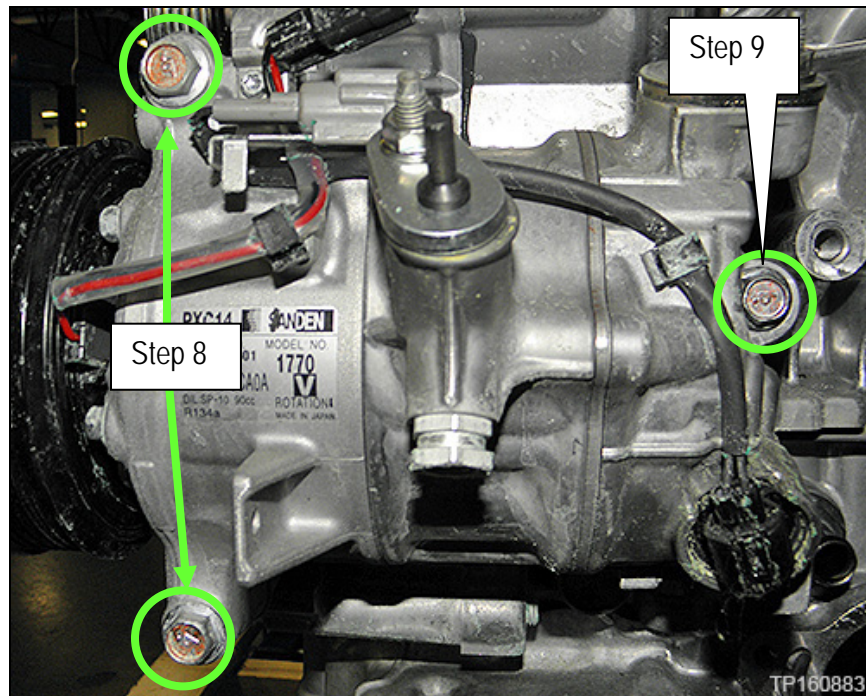

Figure 10
8. Loosen the front two (2) A/C compressor mounting bolts shown in Figure 10.
9. Loosen the single rear A/C compressor mounting bolt shown in Figure 10.